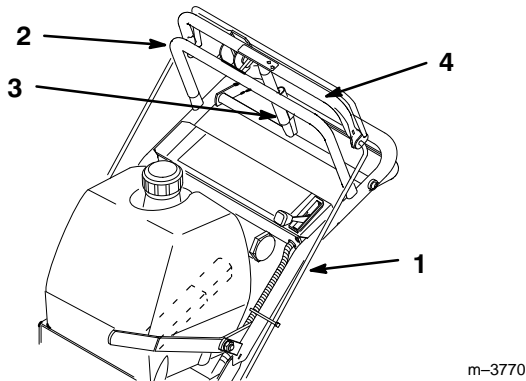

Figure 6
3. Check the gap between upper control bar and fixed bar with wheel drive fully engaged. Gap should be approximately 1/4 in. (6 mm) (Fig. 6).